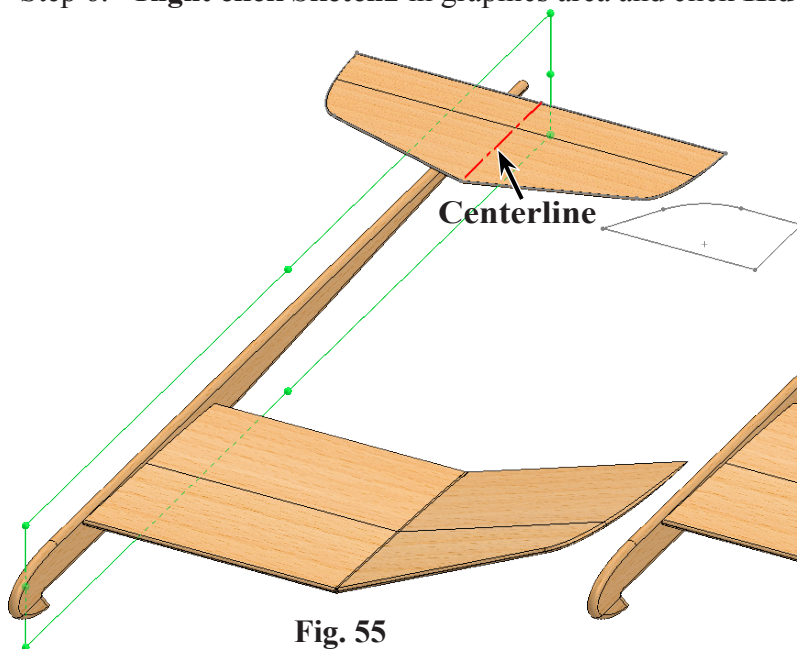

Fig. 55
Step 4. Click the **centerline of the H Stab** in the graphics area, **Fig. 55**.